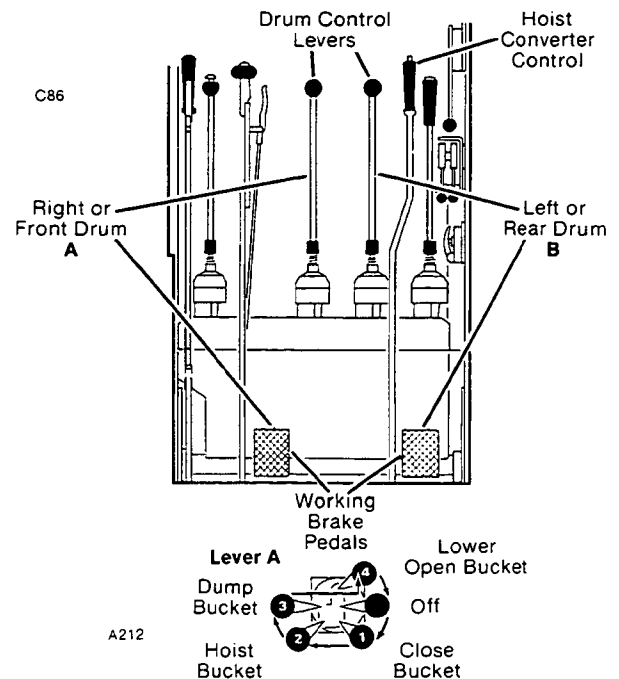

Figure 13 Drum Controls — Clamshell with CONT. PRESSURE CLOSING
Clamshell with Controlled Pressure Closing Flexair Drum Control Valves (Figure 13)
9. With the bucket open and in the digging area, pull lever (A) back to Position 1, Figure 13 and release both brakes (A and B) to close the bucket.
10. When the bucket has closed completely, move lever (A) to Position 2, Figure 13 to hoist the bucket.
12. Move lever (A) forward toward position 3, Figure 13 to slow down the hoist speed as required.
14. When the bucket has been hoisted to the desired height, move lever (A) forward to Position 3, Figure 13 and apply brake (B) to dump the bucket.
15. Slowly apply brake (A) to control the dumping speed and to keep slack out of the closing line.
16. As soon as the bucket is empty, move lever (A) directly to Position 4, Figure 13 and release both brakes (A and B) to lower the bucket.
18. When the bucket is in the digging area, pull lever (A) back to Position 1, Figure 13, and release both brakes (A and B) to repeat the cycle.